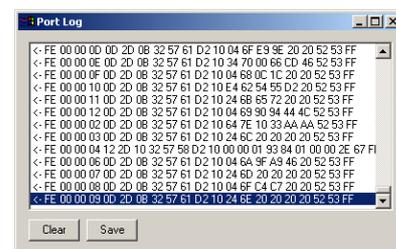

Fig. 4.2 – Port Log
3. Optionally click on [PortLog] to display the data flow between the RDS Softdecoder and the RDS hardware (Fig.4.2).